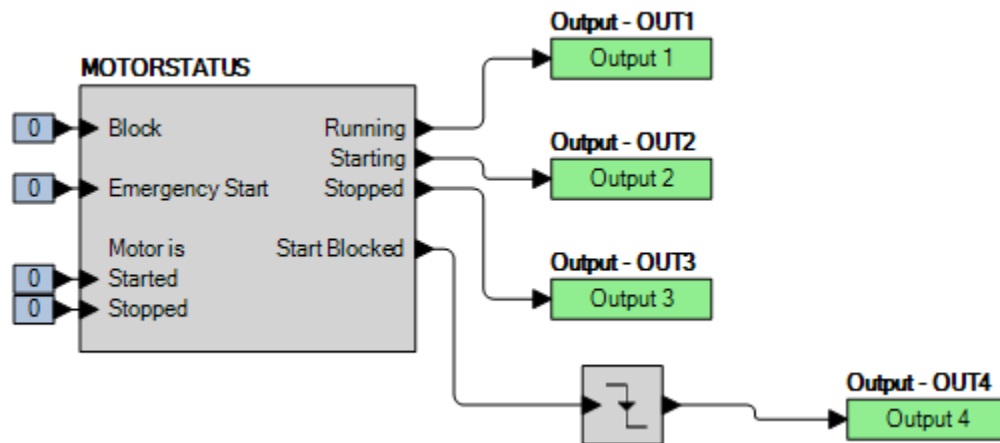

Figure 73-1. BESTlogicPlus Settings
Step 2: Use BESTCOMSP*lus* to configure the BESTlogic*Plus* Programmable Logic shown in Figure 73-1.
- Step 11: Use BESTCOMSPPlus to configure the BESTlogicPlus Programmable Logic shown in Figure 73-1.
- Step 13: Connect a three-phase current source to terminals D1 and D2 (IA), D3 and D4 (IB), and D5 and D6 (IC).